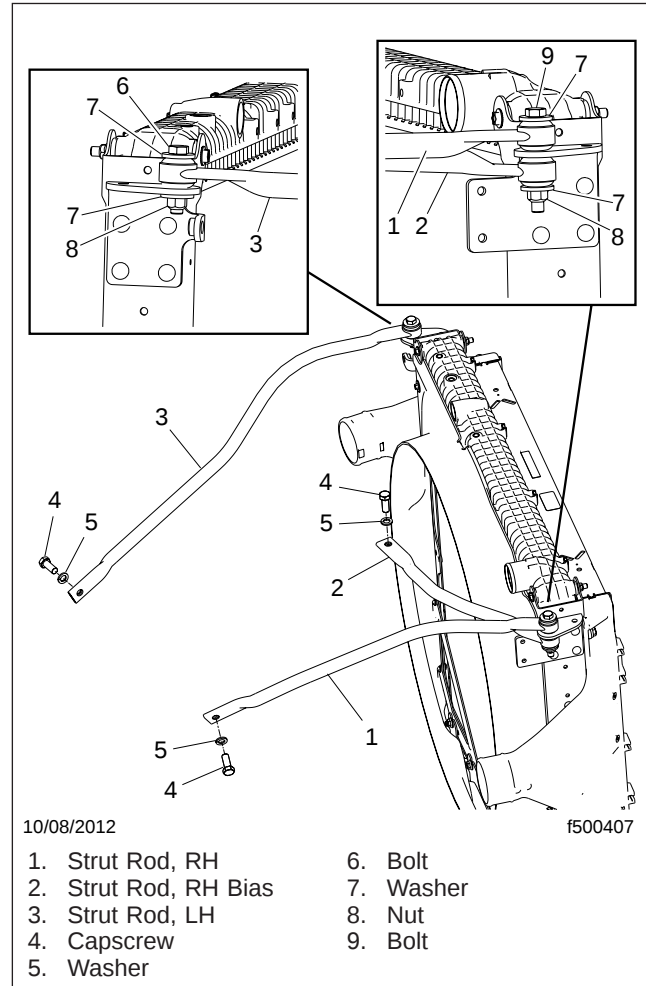

Fig. 15, Isolated Radiator Strut Rod Installation
31. Install the new radiator strut rods. See Fig. 15. Tighten the radiator strut rod fasteners at the radiator 55 to 65 lbf·ft (75 to 90 N·m), and at the engine block 125 to 139 lbf·ft (171 to 188 N·m).